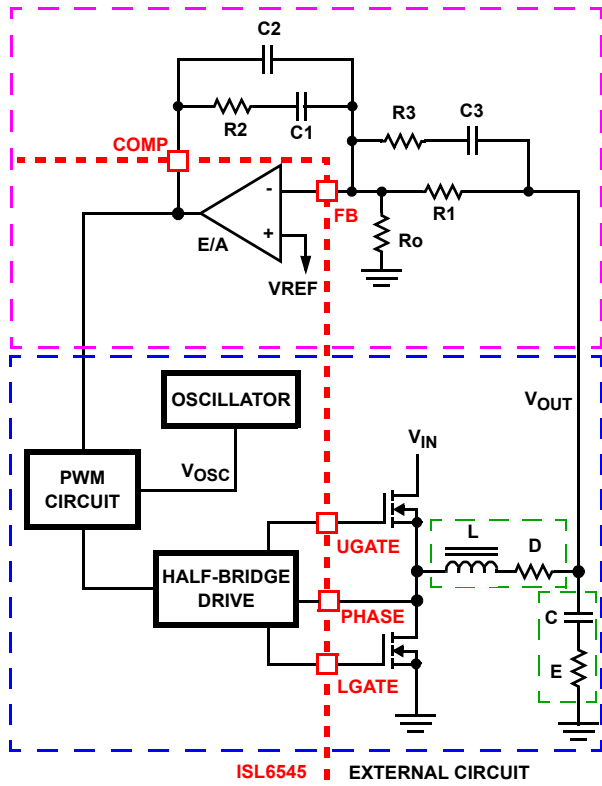

FIGURE 9. VOLTAGE-MODE BUCK CONVERTER COMPENSATION DESIGN
This section highlights the design consideration for a voltage-mode controller requiring external compensation. To address a broad range of applications, a type-3 feedback network is recommended, as shown in the top part of Figure 9.
Figure 9 also highlights the voltage-mode control loop for a synchronous-rectified buck converter, applicable to the ISL6545 circuit. The output voltage ( $V_{OUT}$ ) is regulated to the reference voltage,  $V_{REF}$ . The error amplifier output (COMP pin voltage) is compared with the oscillator (OSC) modified sawtooth wave to provide a pulse-width modulated wave with an amplitude of  $V_{IN}$  at the PHASE node. The PWM wave is smoothed by the output filter (L and C). The output filter capacitor bank's equivalent series resistance is represented by the series resistor E.
The compensation network consists of the error amplifier (internal to the ISL6545) and the external R1-R3, C1-C3 components. The goal of the compensation network is to provide a closed loop transfer function with high 0dB crossing frequency ( $F_0$ ; typically 0.1 to 0.3 of  $F_{SW}$ ) and adequate phase margin (better than 45°). Phase margin is the difference between the closed loop phase at  $F_{0dB}$  and 180°. The equations that follow relate the compensation network's poles, zeros and gain to the components (R1, R2, R3, C1, C2, and C3) in Figure 9. Use the following guidelines for locating the poles and zeros of the compensation network:
1. Select a value for R1 (1kΩ to 5kΩ, typically). Calculate value for R2 for desired converter bandwidth ( $F_0$ ). If setting the output voltage via an offset resistor connected to the FB pin,  $R_o$  in Figure 9, the design procedure can be followed as presented.